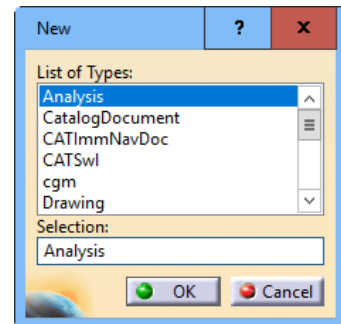

Figure 2-49 The New dialog box
- Choose **File > New** from the menu bar; the **New** dialog box is displayed, as shown in Figure 2-49. Alternatively, choose the **New** tool from the **Standard** toolbar to invoke the **New** dialog box.